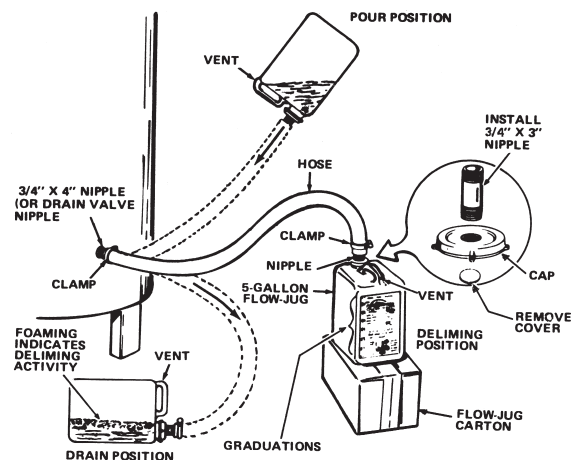

FIGURE 29.
6. Lift container to the "Pour" Position, see Figure 29, being careful to keep the vent in the handle above the liquid level and pour the UN•LIME into the heater.
8. Let UN•LIME remain in the heater for 5 minutes and then lower the container to the "Drain" Position, see Figure 29.